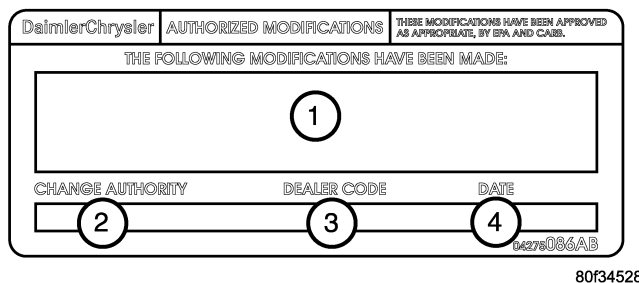

Fig. 1 AUTHORIZED MODIFICATION LABEL
14. Type the necessary information on the “Authorized Modification Label” p/n 04275086AB and attach near the VECI label (Fig. 1).